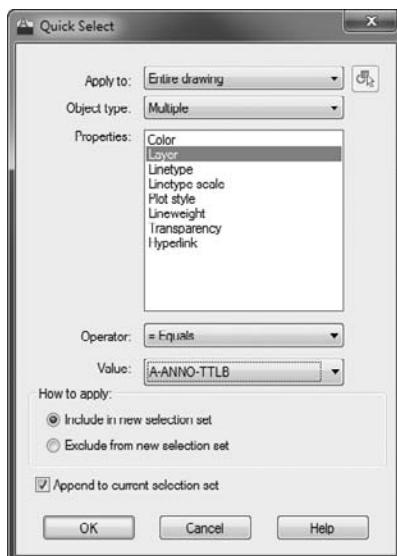

FIGURE 14.2 Filtering title block layers using the Quick Select dialog box
5. Click the Quick Select button, found on the right side of the Write Block dialog box, to open the Quick Select dialog box shown in Figure 14.2.
- Using Figure 14.2 as your guide, verify that Apply To is set to Entire Drawing and the Object Type is set to Multiple. The Properties combo box updates to list all of the available properties. Note that the options found in the Properties combo box will depend on the Object Type you have selected.